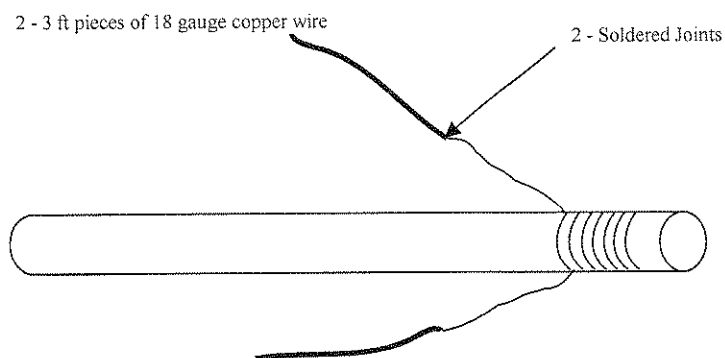

Figure 2: Second stage of resistance thermometer construction
- c) Cut two 3 ft pieces of 18 gauge copper wire. Clean all copper ends with sand paper. Solder one piece of 18 gauge copper wire to each loose end of 40 gauge copper wire as shown in Figure 2.